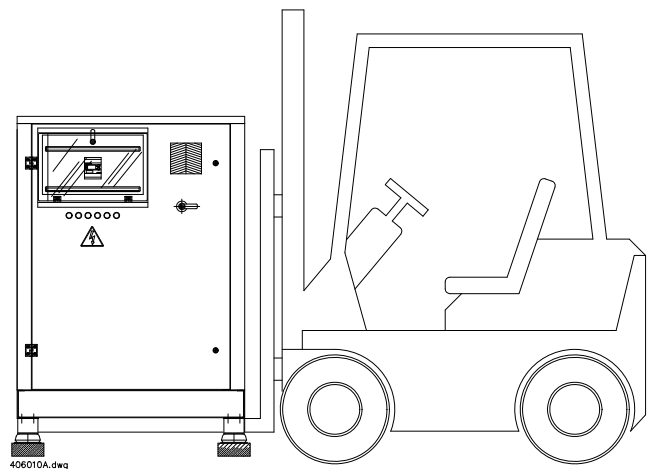
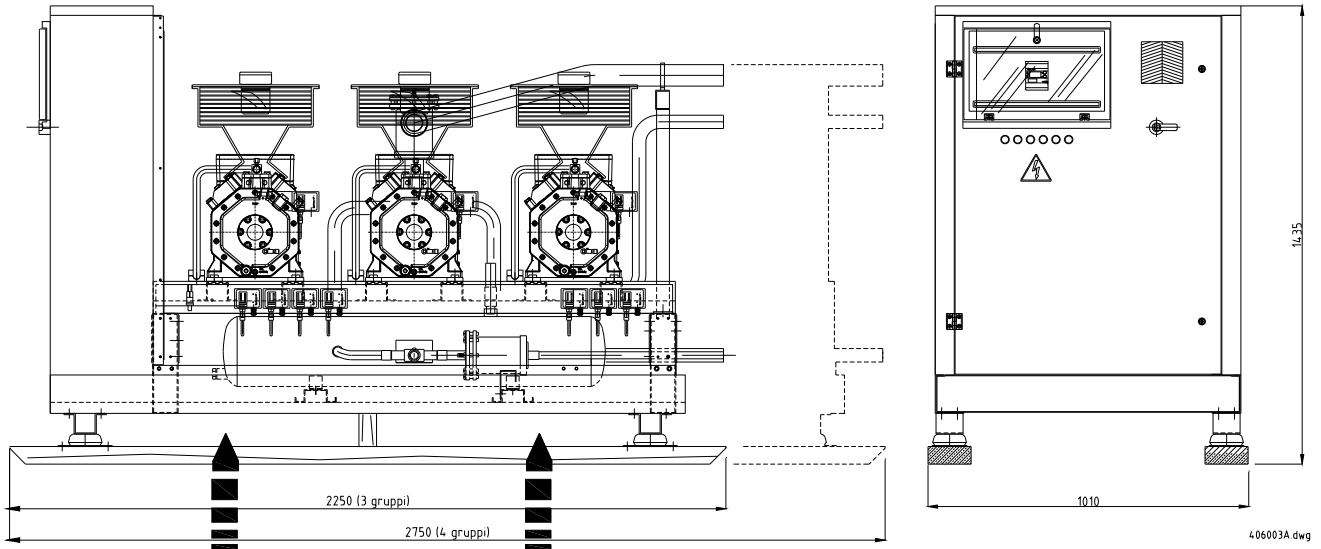

FIG.1
FIG.2
- Insert the forklift truck prongs through the space between frame and wooden base, as shown in Figure 1 and 2, and check that the unit is balanced and stable before lifting and moving it. Maximum dimensions including the wooden base, are indicated in Figure 2